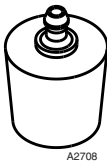

Figure 11—Flow monitoring adapter
2. Plug the flow monitoring adapters (figure 11) into the Q3013D. Insert the manometer tubes onto the adapters, “low side” to the outlet tube adapter and “high side” to the inlet tube adapter using the air flow Monitoring adapters.